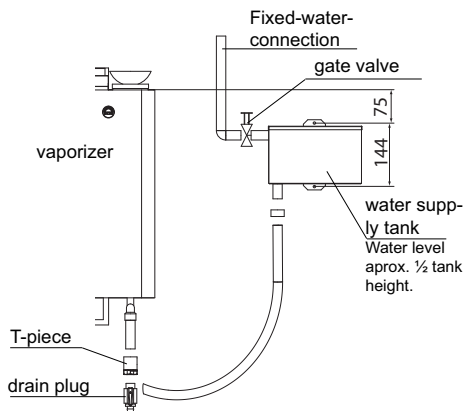

Fig 6
- Please drill the mounting holes  $\varnothing 3,4\text{mm}$  according to the specification in Fig. 6
- Please connect the water tank with the vaporizer according to Fig. 2 and Fig. 6.